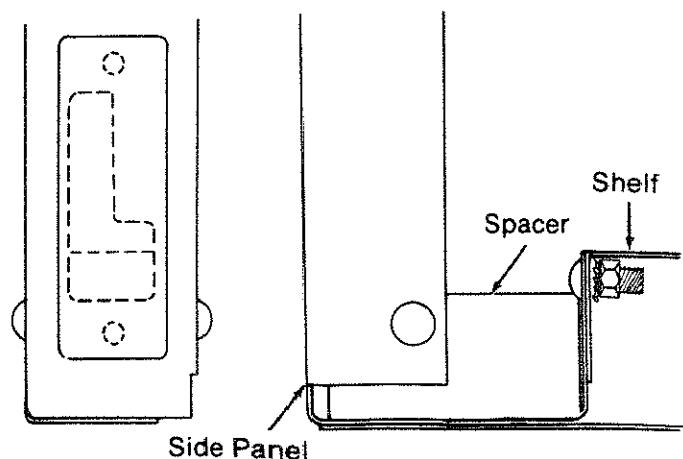

Fig. 27
18. Put a truss head bolt through the back of the *right spacer* and front edge of the *shelf*. (Figure 27)